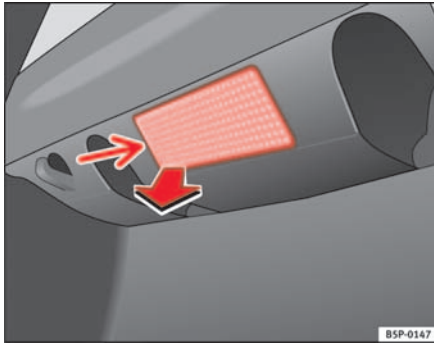

Fig. 188 Luggage compartment light
- Extract the tulip shaped fitting by pressing on the inside edge of this-arrow- using the flat side of a screwdriver ⇒ fig. 188